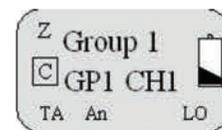

Figure 1
- Press the "ENTER" key to bring up the Main Menu screen. *(See Figure 1)*